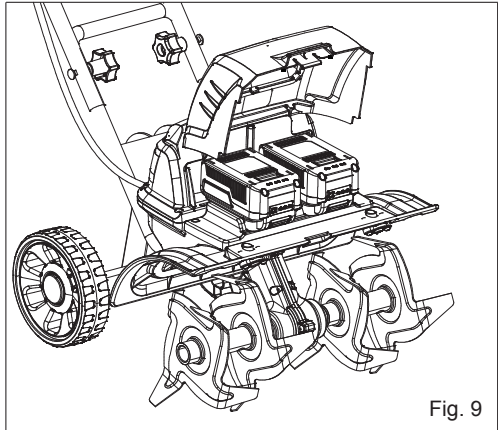

Fig. 9
1. Open the battery compartment cover and slide both batteries in until they click to lock it into position, then close the battery compartment cover (Fig. 9).